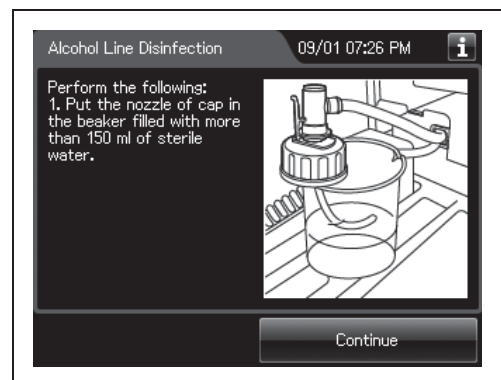

Figure 7.116
- 27** When the touch screen display changes as shown Figure 7.116, Put the nozzle of alcohol cap in the beaker filled with more than 150ml of sterile water.